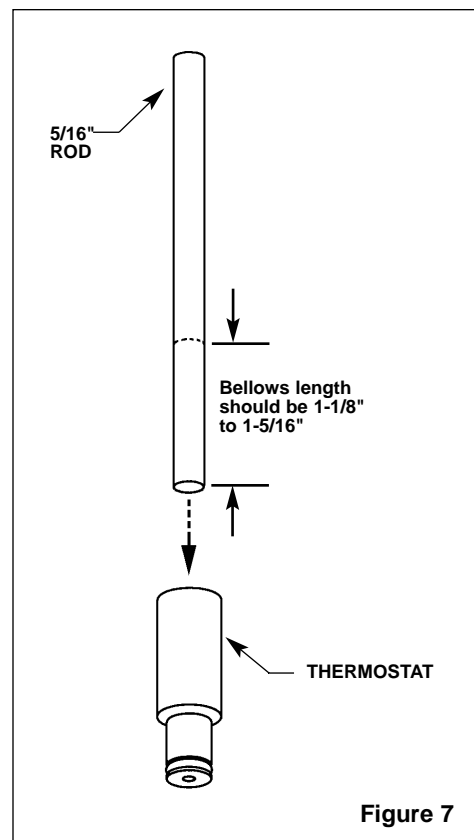

Figure 7
2. Insert a 5/16" dia. rod into the thermostat bellows. Mark the length of the rod inside the bellows (see Figure 7).
3. Mark the length of the thermostat bellows (at room temperature, with 10 lb. of force, the bellows length should be approx. 1-1/4") (see Figure 7).